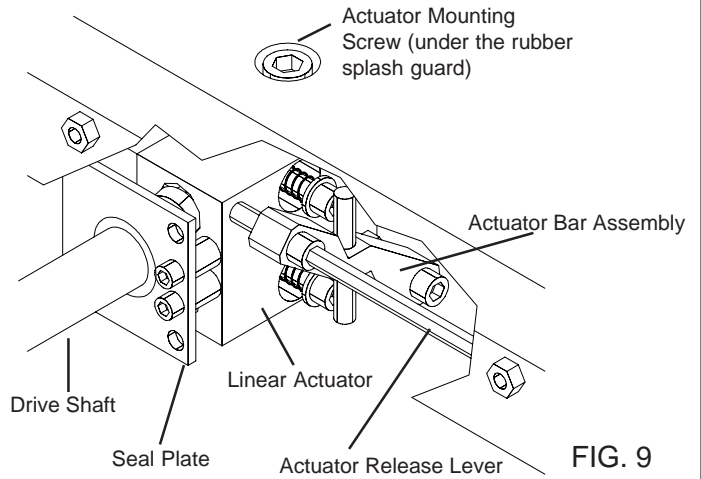

FIG. 9
2. Remove the shaft seal on each side of the linear actuator. See FIG. 9. **NOTE:** When the bellows are used, the shafts don't get lubricated and the seals would run dry. They would then become noisy and not operate properly. To remove the seals:
- b. Remove the actuator mounting screw on top of the carriage. See FIG. 9. Loosen the setscrew on the collar that holds the actuator release lever in place (this is located behind the flap by the release lever handle). Remove the actuator release lever. (Keep track of all hardware. See page 40 for exploded view.) Then push the carriage toward the right end of the Grinder.
- g. Push the carriage back to the left, and reattach the actuator with the mounting screw. See FIG. 9.